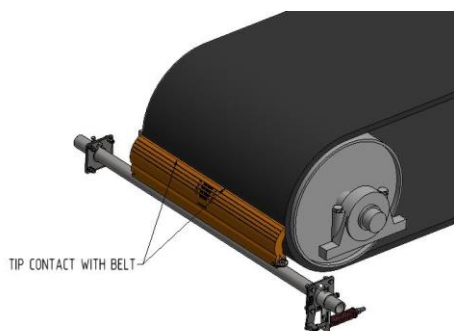

Fig. 3a
5. Rotate the cleaner upward until the blade touches the belt (refer fig 3a).